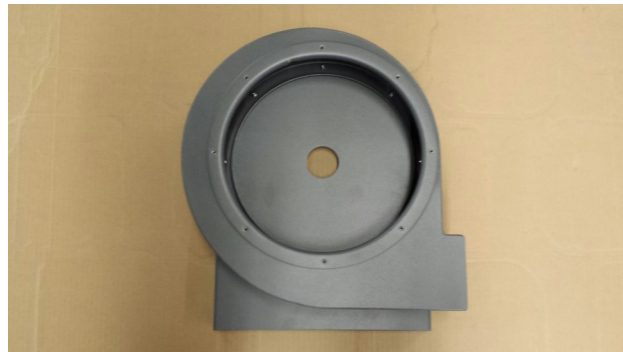

Figure 1 (Inlet side—faces KLEENair)
1. Remove the outer cover of the blower and take out the fan wheel. (see figure 1)